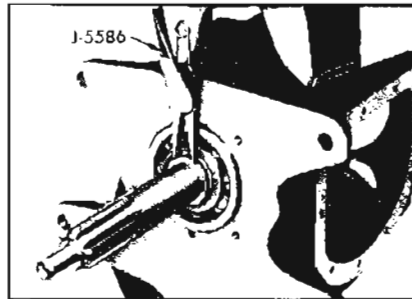

Figure 4-46—Removing Main Drive Gear Snap Ring
12. Remove the main drive gear snap ring (see Figure 4-46), and remove spacer washer.